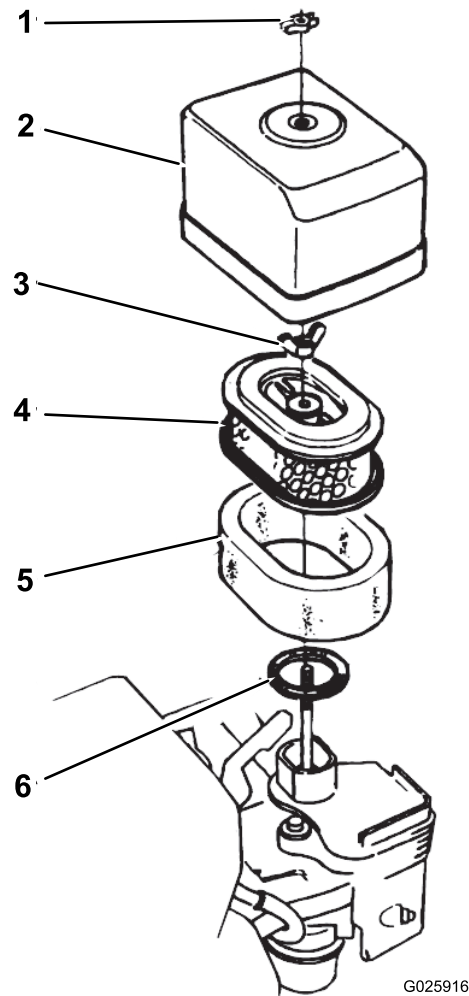

Figure 31
2. Remove the wing nut securing the air-cleaner cover to the air cleaner, and remove the cover (Figure 31).
5. Assemble the air-cleaner cover to the air cleaner with the wing nut (Figure 31).
1. Remove the wing nut securing the air-cleaner cover to the air cleaner, and remove the cover (Figure 31).
2. Remove the wing nut from the air filter, and remove the filter (Figure 31).
3. Remove the foam air-filter element from the paper element (Figure 31).
1. Assemble the foam air-filter element onto the paper element (Figure 31).
2. Inspect the gasket for wear and damage (Figure 31).
3. Ensure that the gasket is positioned on the air inlet for the carburetor (Figure 31).
4. Assemble the air-filter elements to carburetor with the wing nut (Figure 31).
5. Assemble the air-cleaner cover to carburetor with the other wing nut (Figure 31).